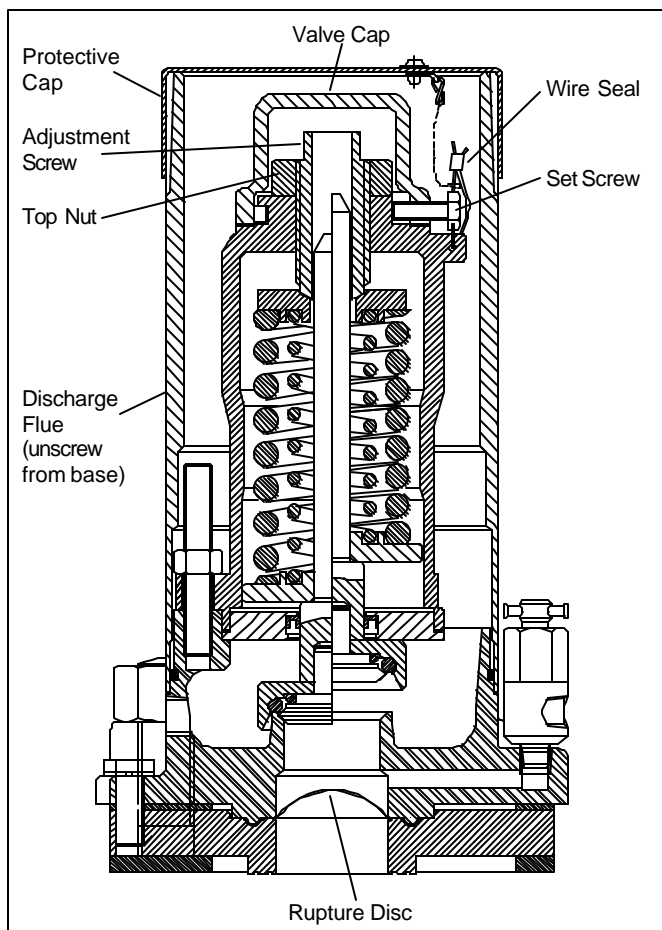

Figure 20 - Top Style Flue and Cap
25) Remove the protective cap and discharge flue from the valve body (Fig. 20).
36) If the valve is a combination device (a top-style valve that includes a rupture disc - Fig. 20), reinstall the rupture disc making sure that the disc and mounting flange are in the serviceable condition specified under **Inspection**, sections 8) Valve Disc and 9) Rupture Disc Flange. Install the rupture disc flange bolts.